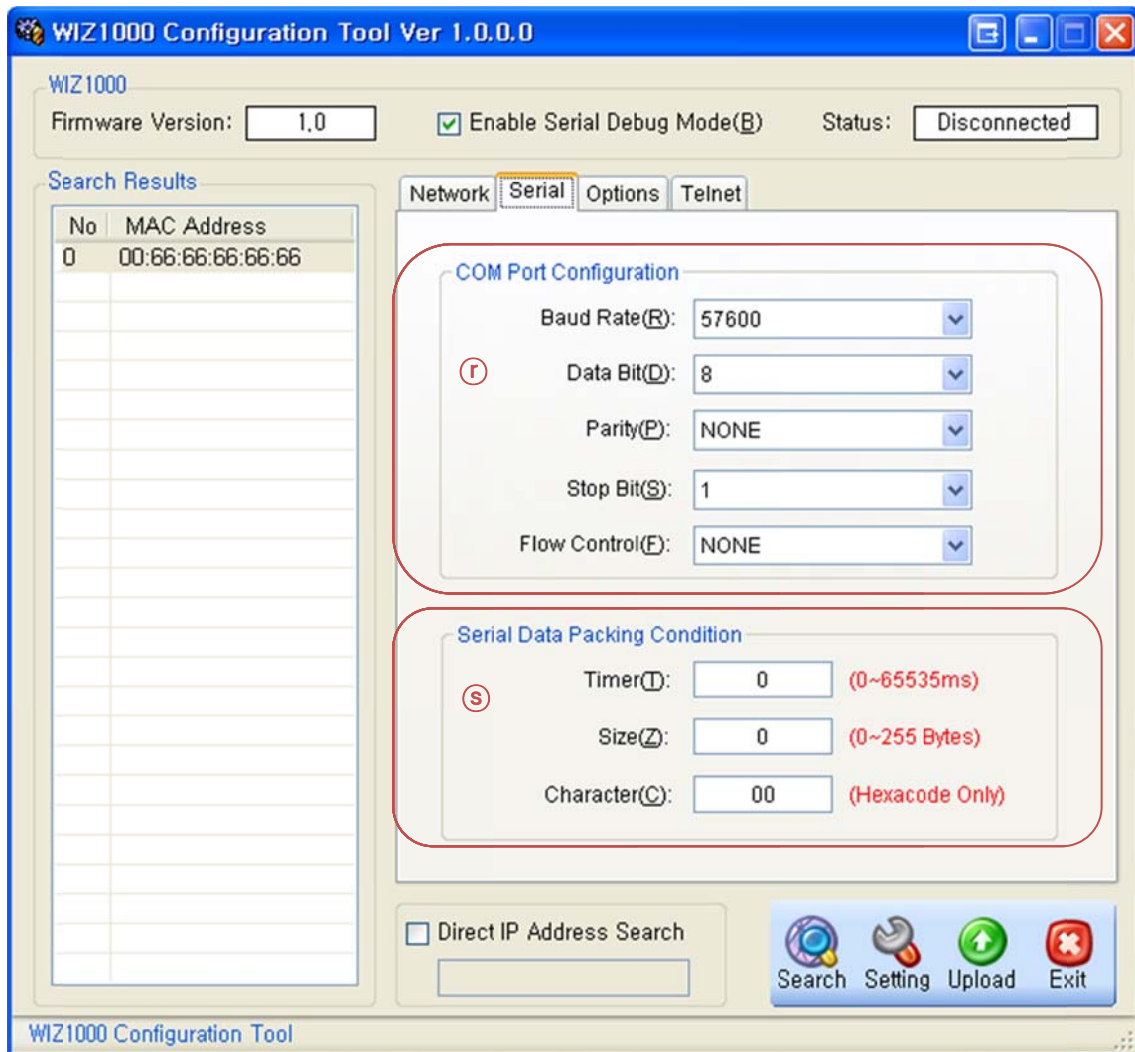

Figure 8. Configuration Tool (Serial Config.)
- As shown in Figure 8, select Option tab and check 'Enable' combo box of "Password" menu.
④ Telnets Com Port Option